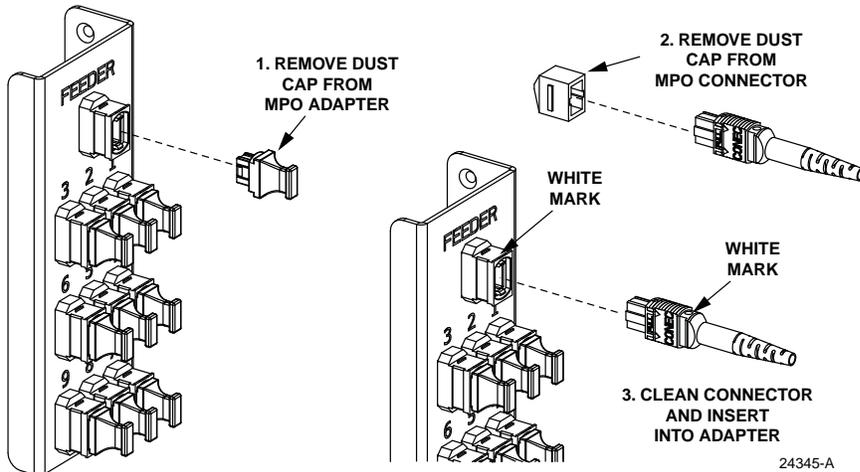

Figure 47. Connecting MPO Connector to MPO Adapter
11. Remove the dust cap from the appropriate bulkhead adapter and the corresponding MPO cable connector as shown in Figure 47.